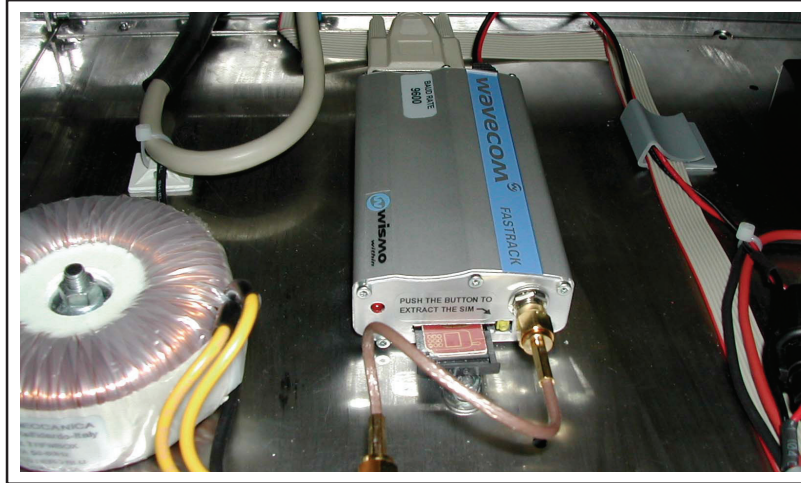

Figure 5.2
- 2) Insert the SIM card into the GSM modem (see Fig. 5.2).